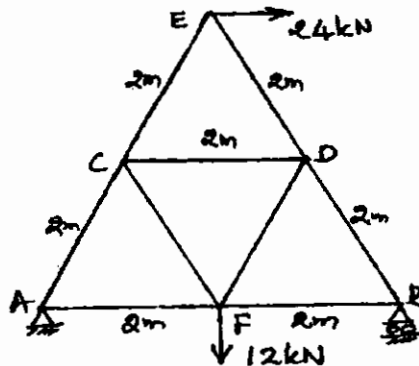

Fig.Q2(b)
- b. Analyze the loaded truss shown in Fig.Q2(b) by method of joints and tabulate the results neatly. (08 Marks)